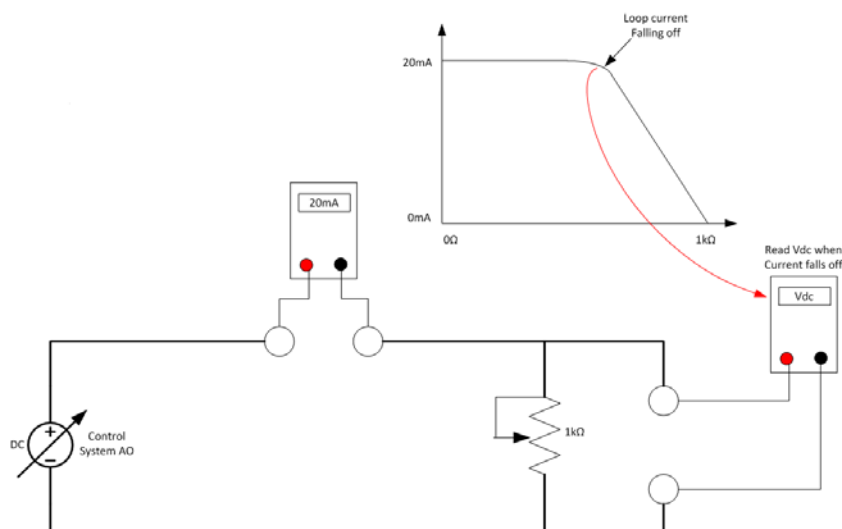

Figure 44 Compliance Voltage Test Setup
1. Configure a test setup as in Figure 44.